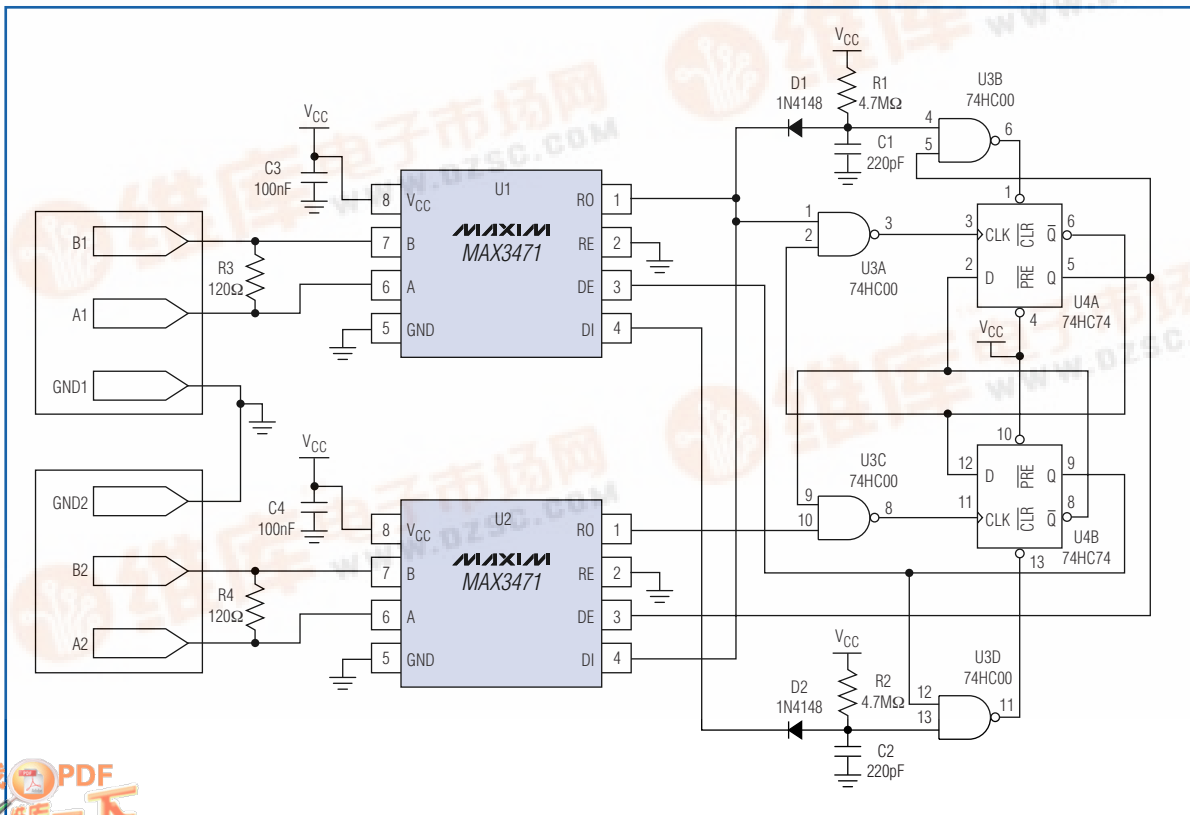

Figure 1. This RS-422 repeater draws only 3 μ A of standby current.
The RS-422 interface is an excellent choice for communicating in noisy environments and over a distance. However, when the distance exceeds the RS-422 capability for reliable data transfer, you must add a repeater. The repeater circuit in **Figure 1**, which must operate from batteries when no power supply is available, draws less than 3 μ A of current from a 3V supply.
Low standby power and true fail-safe operation are the key features in this application. U1 and U2 drive their receiver outputs (RO) high when the RS-422 inputs are open circuited or terminated and undriven. An incoming data byte on the differential inputs A1 and B1 forces a transition on RO of U1, and a state machine (right half of the Figure 1 schematic) is latched ON by the falling edge of RO. The state
An incoming data burst (**Figure 2**, top) is retransmitted as outputs A2 (bottom trace) and B2 (middle trace). U2 de-asserts those outputs 700 μ s after the final transition. Other delays can be implemented by adjusting R1/C1 and R2/C2 as shown in Figure 1.